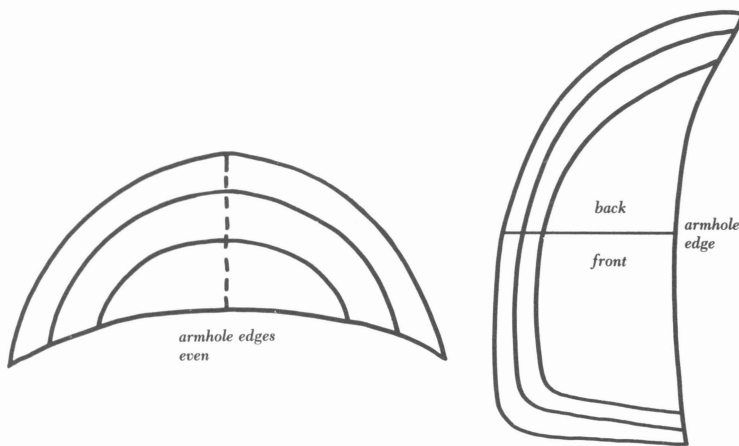

Figure 39. Layer from the largest to the smallest piece of polyester fleece.
9. For each pad, layer the pieces of polyester fleece in each size starting with the largest size on top and layering to the smallest size on the bottom. Pin (Figure 39).